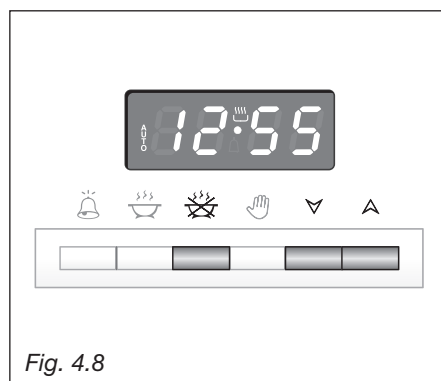

Fig. 4.8
2. Set the end of the cooking time by pushing the  button and the  button to advance, or  to go backwards if you have passed the desired time (Fig. 4.8).